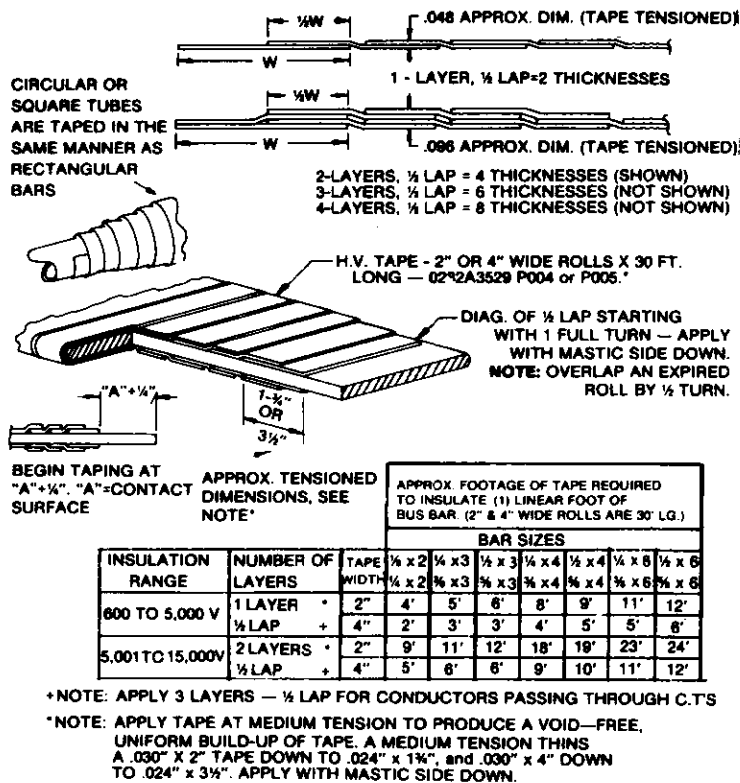

Fig. 23 Bus Bars
Apply appropriate number of layers of high-voltage tape 0282A3529 pts 4 or 5 (2" or 4" wide), mastic side down, at a medium (Δ) tension to bus bars per Fig. 23 (5kV and 15kV).
1. Check to see that a sufficient area of insulating tape extends beyond the insulation furnished on the terminal bars (2 inches for 5 kV, 3 inches for 15 kV). Refer to Fig. 23.
2. All terminations should be insulated as outlined in table, Fig. 23, for correct layers of insulation.